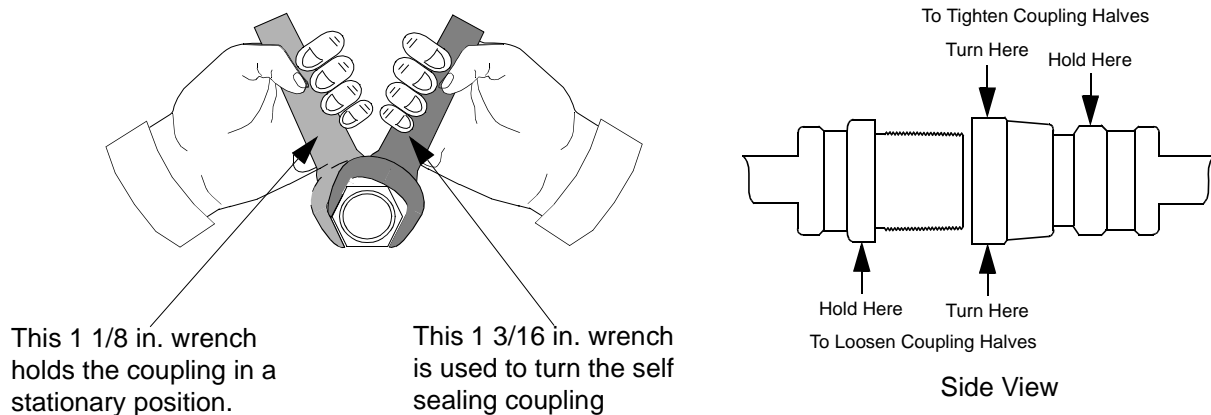

Figure 5-1: Disconnecting Self Sealing Couplings
3. Using a 1-3/16 in. wrench, and a 1-1/8 in. wrench, as shown in Figure 5-1, disconnect the two self sealing coupling connectors quickly to minimize helium leakage.
7. Using two wrenches as shown in Figure 5-1, connect the two self sealing couplings quickly to minimize helium leakage.